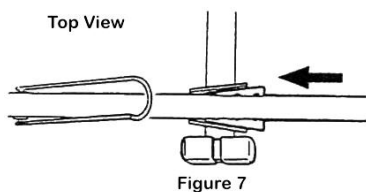

Figure 7
1. Slide the tapered plates on the cross-arms into the tapered sockets on the cradle. (Figure 7)